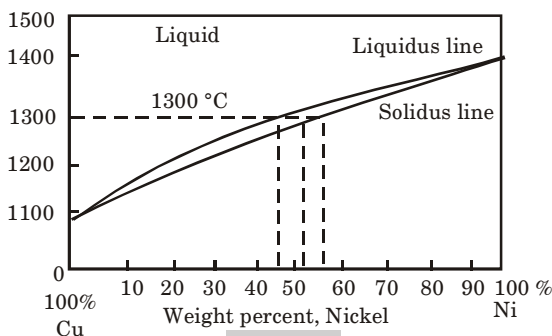

Fig. 3.8.1.
5. A phase diagram of copper-nickel system with temperature as the ordinates and chemical composition in weight percent as the abscissa is shown in (Fig. 3.8.1).